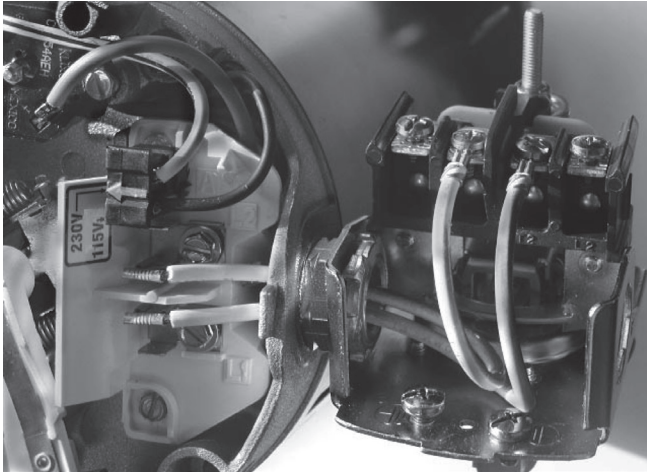

Figure 7: Voltage set to 230 volts, Plug Type
4. Attach the incoming power leads to the two outer screws on the pressure switch as shown in Figure 7.
5. Attach the ground wire to one of the grounding connections, shown in Figure 7.
- 1. Connect the ground wire first as shown in Figure 7. The ground wire must be a solid copper wire at least as large as the power supply wires.
- 4. Connect the power supply wires to the pressure switch as shown in Figure 7.